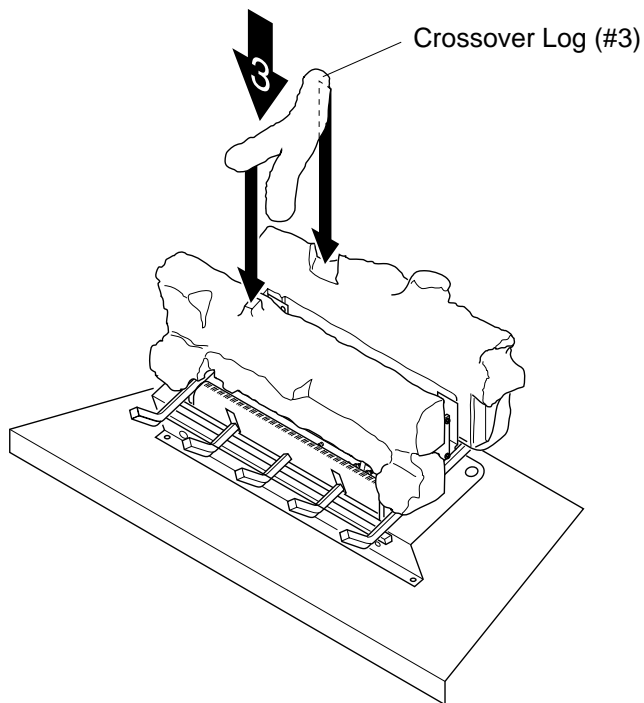

Figure 23 - Installing Crossover Log
- Place crossover log (#3) into place (see Figure 23). Be sure to place back of crossover log into notch on left side of rear log. The indentation under front left fork of crossover log must rest on rectangular knob of front log.